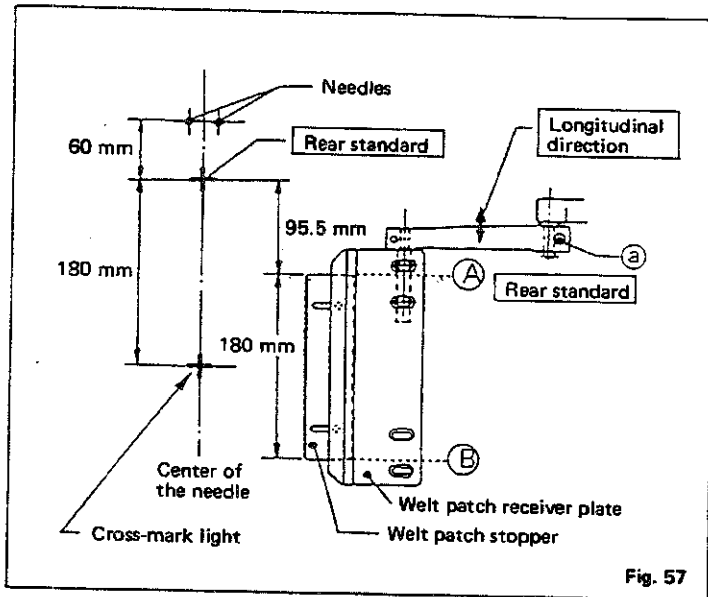

Fig. 57
1. Loosen bolt (a) and adjust the longitudinal direction of the welt patch receiver plate and welt patch base plate so that the relevant parts are positioned as illustrated in Fig. 57. Welt patch stopper end point (B) corresponds to the rear standard position of the binder when it comes down after having fed a welt patch. Therefore, welt patch stopper front end observed by an operator (A) corresponds the sewing end point when the sewing length is set to 180 mm. Set a work-piece using either end as a standard.